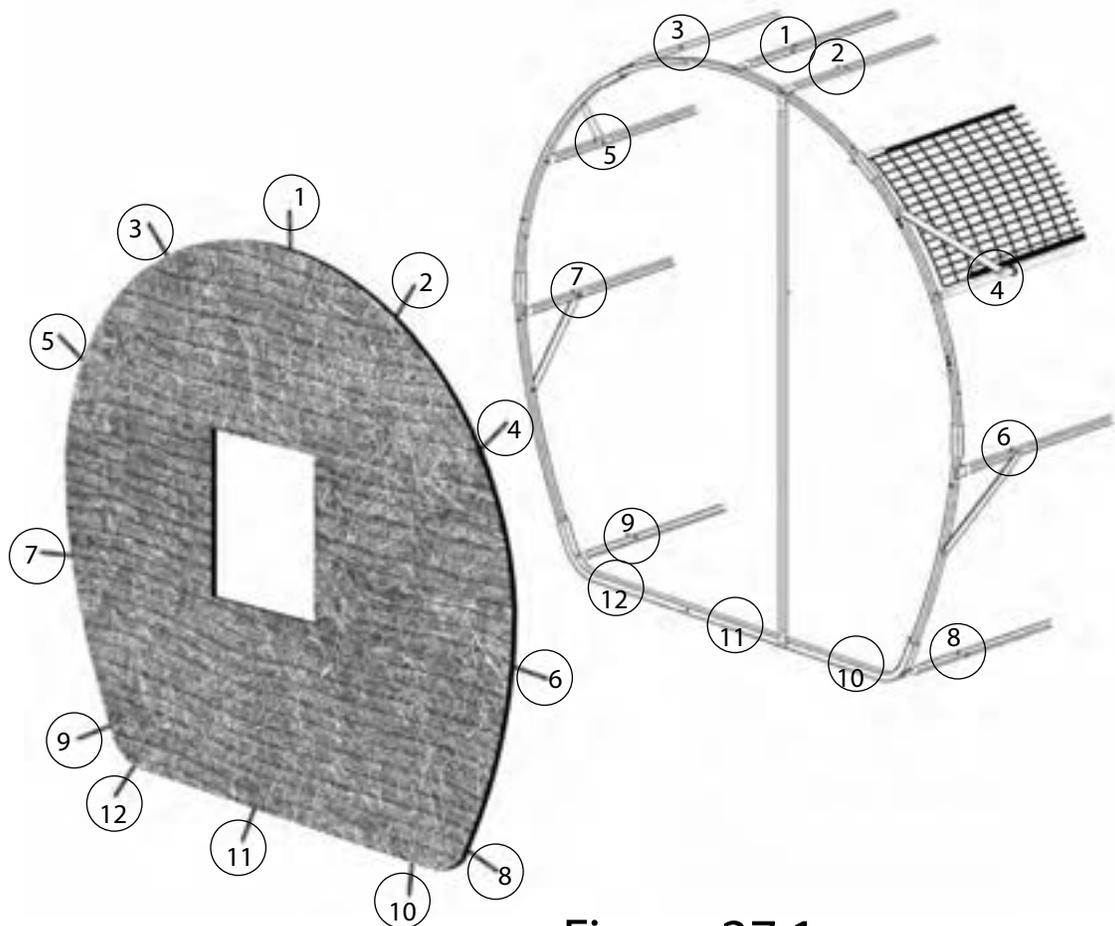

Figure 27.1
STEP 19: Locate the (1) END BLANKET "O" that will be installed on the other end hoop. Repeat Step 18 for the opposing end, attaching each bungee strap to it's corresponding set screw location, starting at the top and working downward following around the perimeter of the end hoop, as illustrated in Figure 27.1.